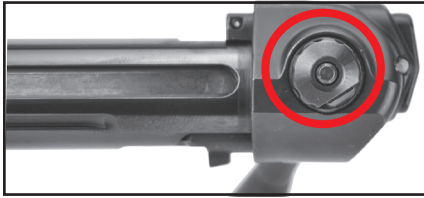

Figure 11
3. With the tip of an object, depress the **Small Button** opposite of the bolt handle and slide the **Bolt Handle Cap** off the bolt assembly – see Figure 11.